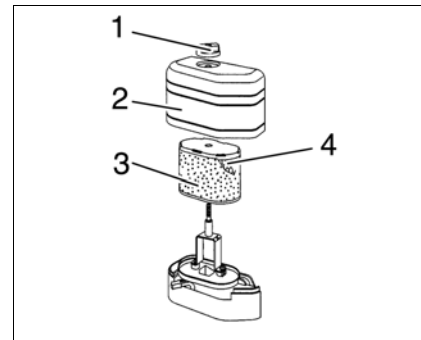

Fig. 23 Air cleaner components
- Unscrew fixing nut (Fig. 23/1) and remove filter cap (Fig. 23/2).
- Remove pre-filter and air cleaner (Fig. 23/3 + 4) by pulling and proceed to dry cleaning or replace if required.